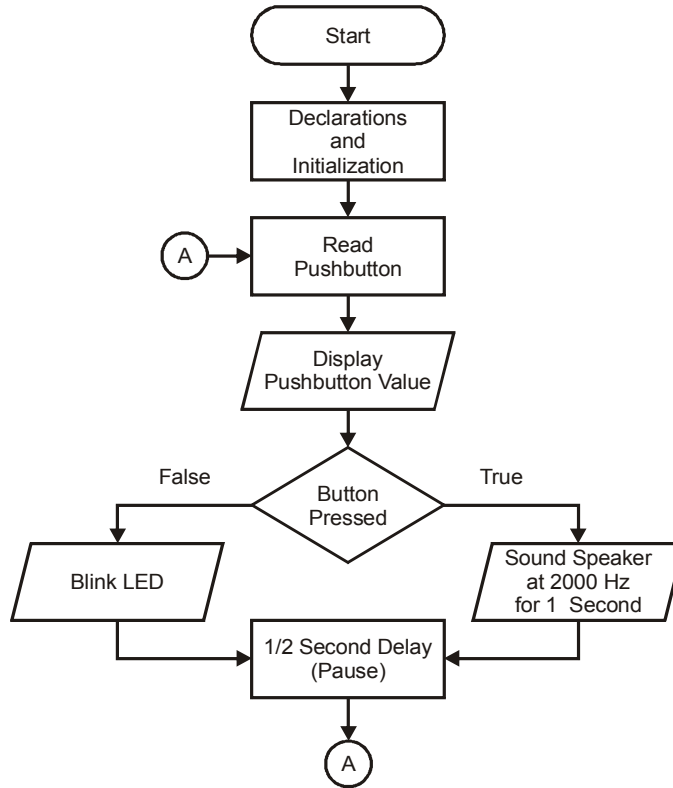

Figure 1-8
- √ Figure 1-8 is a flowchart that requires different code depending on whether the button is pressed or not. Modify `ConditionalLEDBlink.bs2` to match the flowchart's operation.